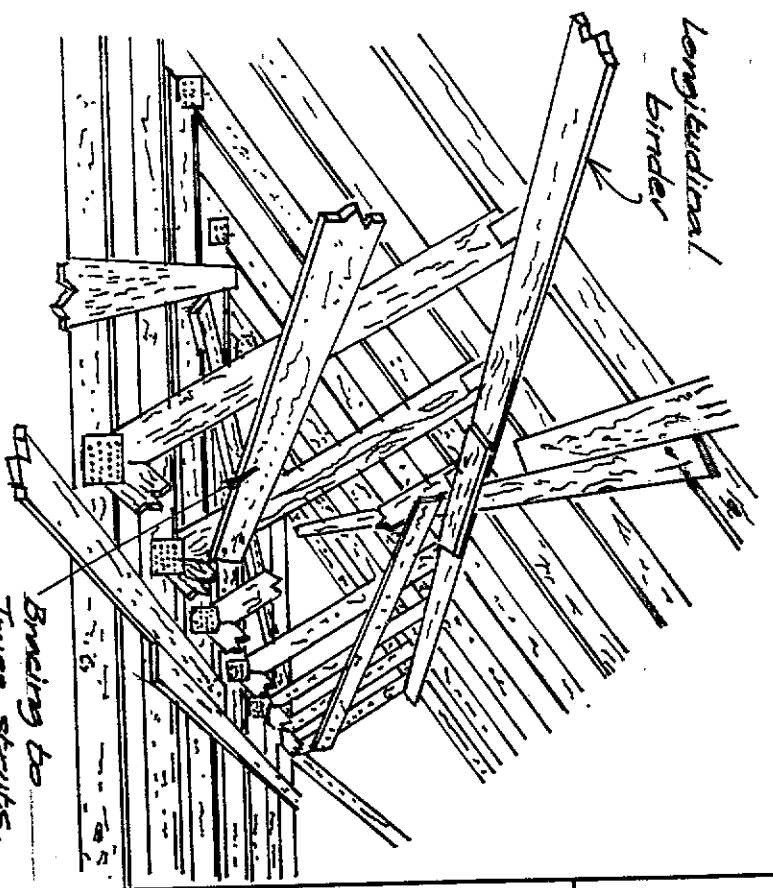
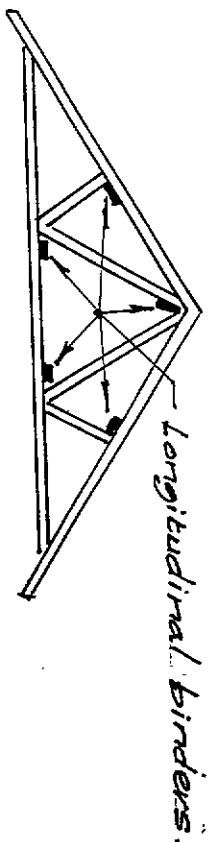

FIGURE 3.
FIGURE 4
- Provide (unless trusses are less than 5m span), for every roof or section of roof between cross walls, 100 X 25mm raking bracing twice nailed to every internal strut, Figure 3.
- Provide longitudinal binders, 100 X 25mm, twice nailed and located at the node points as shown in Figure 4; all binders shall abut walls at both ends and for this purpose each binder shall be in two overlapping lengths. Where binders cross raking main bracing the binders shall be interrupted and plated, Figure 3.